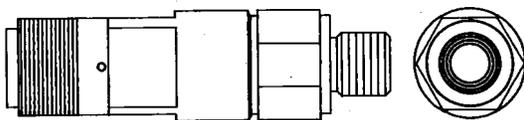

Fig. 12—209A Connector
**2.05 209A:** The 209A connector (Fig. 12) consists of a coaxial jack, terminal, body, and gasket assembled together. This connector is used in modifying 30A, 30B, 31A, 31B, and 35A cable terminals when converting from L1 to L3 Carrier Telephone Systems.